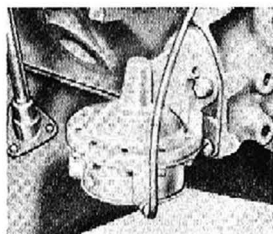

Fig. 36—Fuel Pump
**Description.** The fuel pump is mounted on the right side of engine (fig. 36) and is operated by an eccentric on the engine camshaft. It pumps fuel from the fuel tank and delivers it to the carburetor. A fuel strainer is located in the fuel tank at the end of the pick-up pipe.